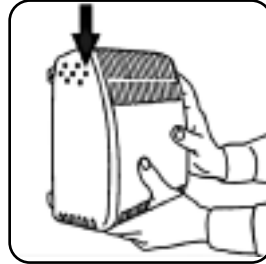

Figure 3
- Insert the two plugs and tighten the screws. Suspend the Utility Heater in the holder (Fig 3).